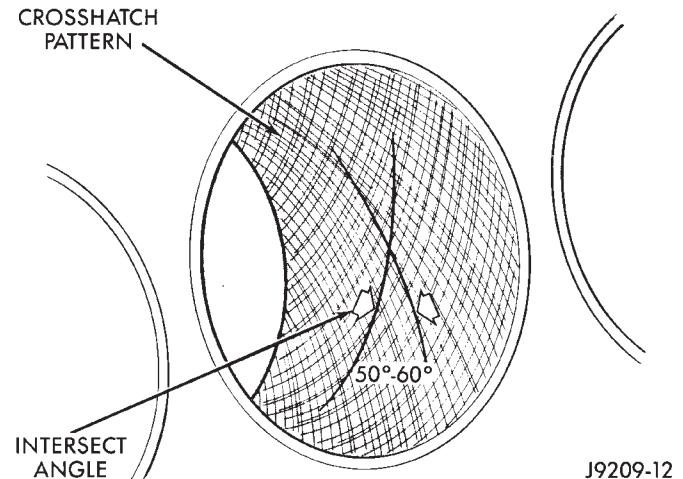

Fig. 2 Cylinder Bore Crosshatch Pattern
(3) Honing should be done by moving the hone up and down fast enough to get a crosshatch pattern. The hone marks should INTERSECT at 50° to 60° for proper seating of rings (Fig. 2).